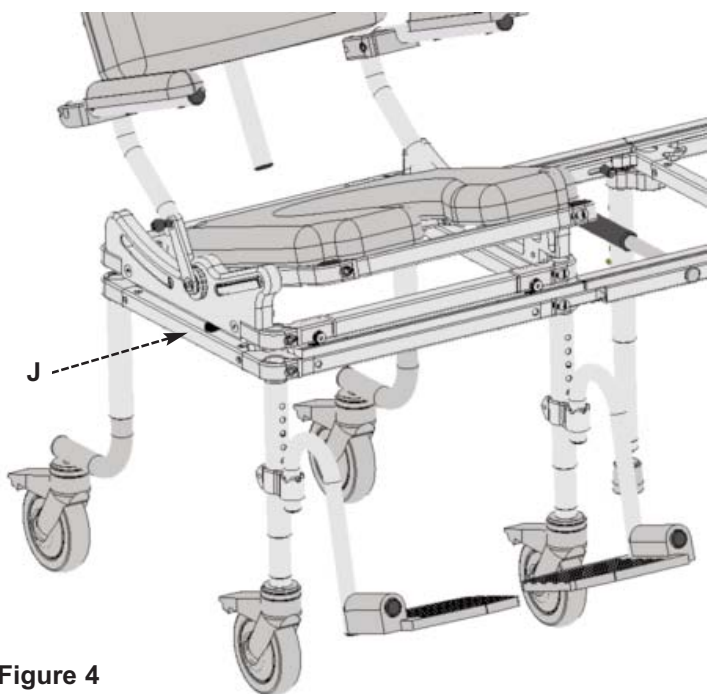

Figure 4
**J** The shuttle frame is released from the roll-in base by pulling back on the underside release lever and simultaneously sliding the shuttle towards the tub section base (Refer to Figure 4).
**K** The tilt mechanism is operated by pulling the spring loaded crank lever outwards and rotating the handle. Once the tilt angle is reached, we recommend either having the unit at its highest/largest tilt angle or flat, slowly release the spring loaded lever and it will automatically lock itself its pin into one of the indexing holes on the indexing disk (Refer to Figure 4)